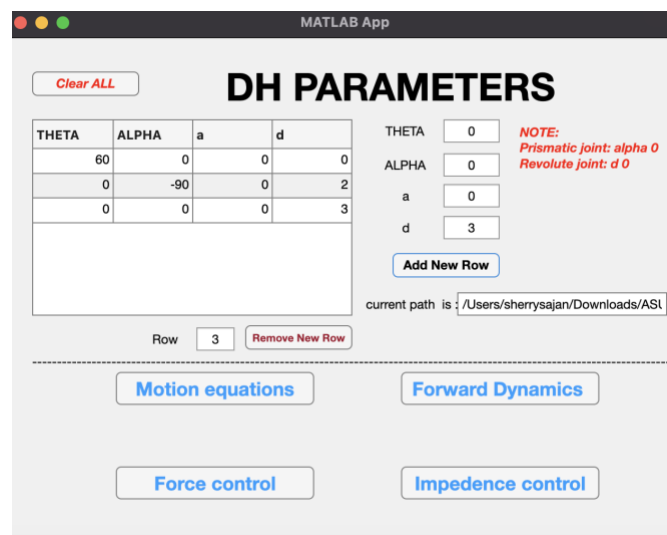

Figure 3
**Step 2.** Once the toolbox is open as shown in figure 3, enter the DH Parameters for 3 Link robot that you want to create. For each link enter the 'Theta', 'Alpha', 'a', 'd' values and click on add new row and the link with the DH parameters will be added to the table. If you would like to remove a row, click on 'Remove New Row'.